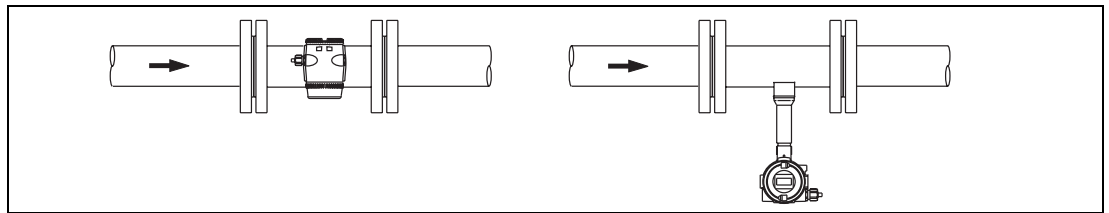

Fig. 15: Installation for High Fluid Temperatures >150 °C
- **for high temperatures (>150 °C), the flowmeter primary should be installed so that the electronic module is to the side or below the flowmeter (Fig. 15).**